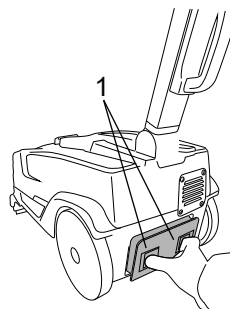

Fig.13A
Press the two sliding release catches and remove the battery from its housing (fig. 13A, ref. 1).